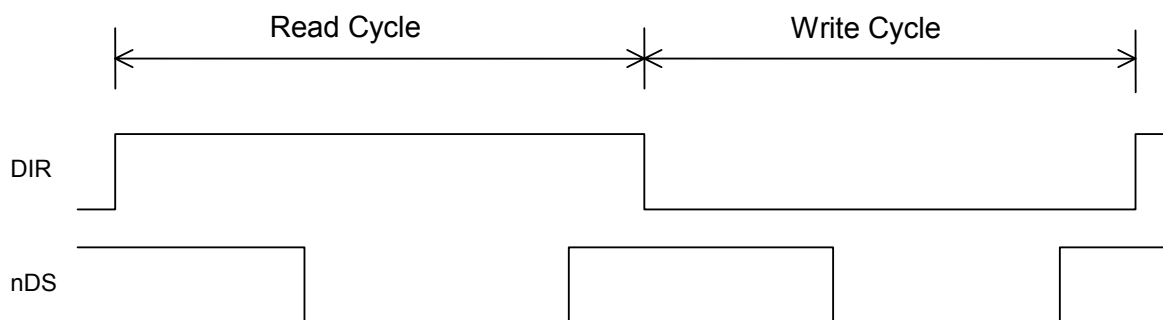

Figure 3- Motorola CPU Mode (68hxx)
- Peripheral mode: This pin selects the CPU type; in this case, the definition of nWR/DIR (pin) and nRD/nDS (pin) are selected (refer to Figure 3 - Motorola CPU Mode (68hxx).